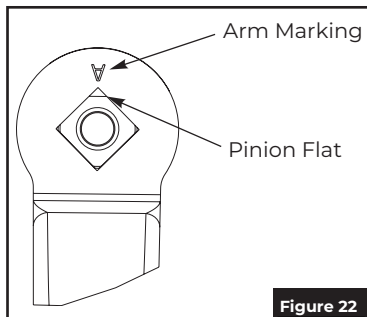

Figure 22
**NOTE:** Pinion flat should be aligned as shown. (Figure 22)